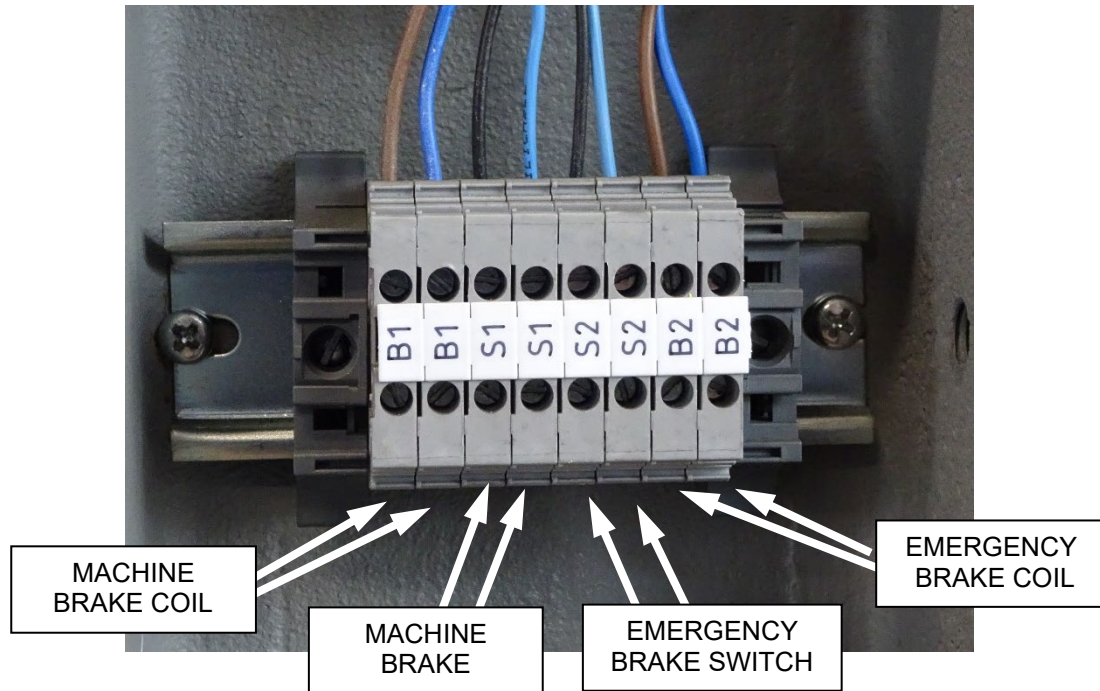

Figure 7 Normal & Emergency Brake Wiring
- Connect the machine brake and emergency brake where shown in Figure 7 below.